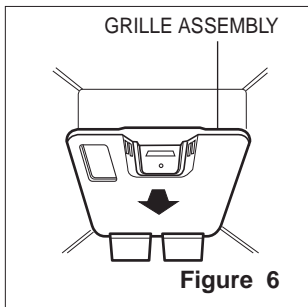

Figure 6
1. Pull out the grille assembly (Figure 6)